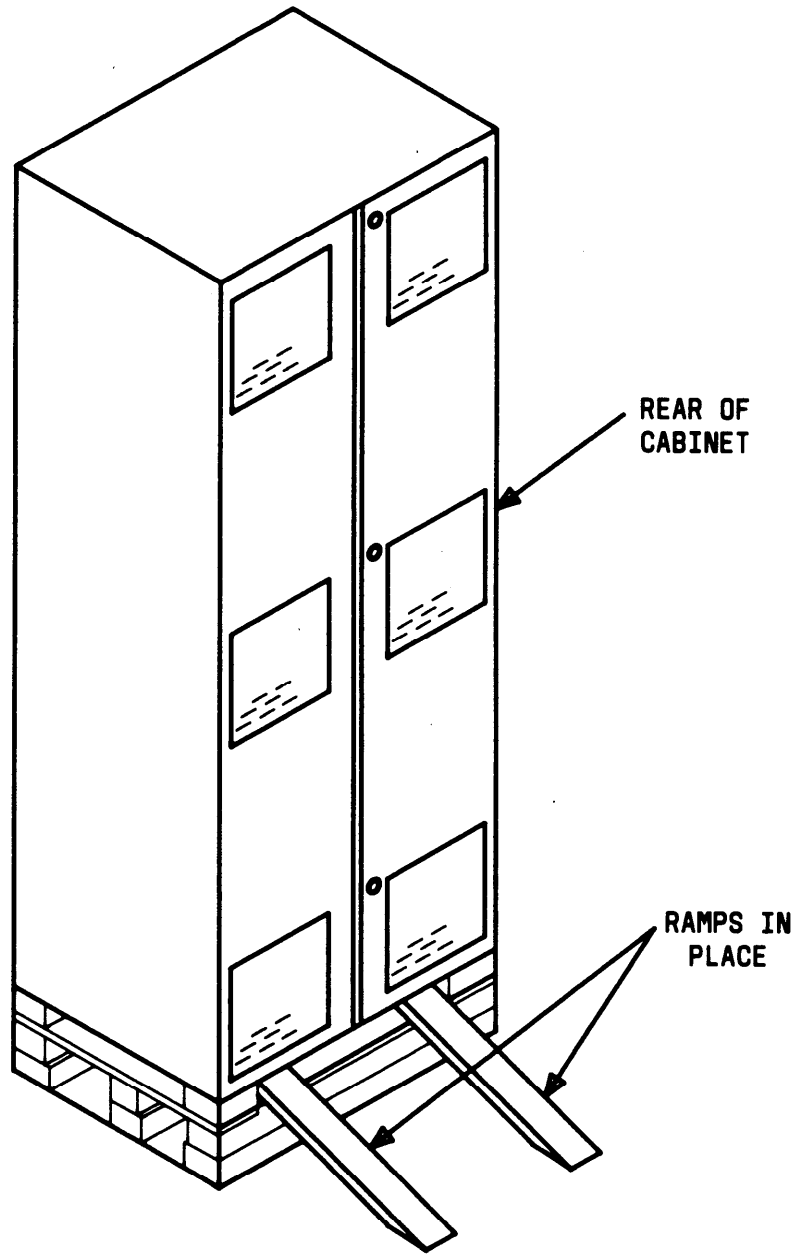

Figure 16. Ramps Installed on Pallet
14. Place the ramps at the end of pallet in line with the rear cabinet casters (see Figure 16).